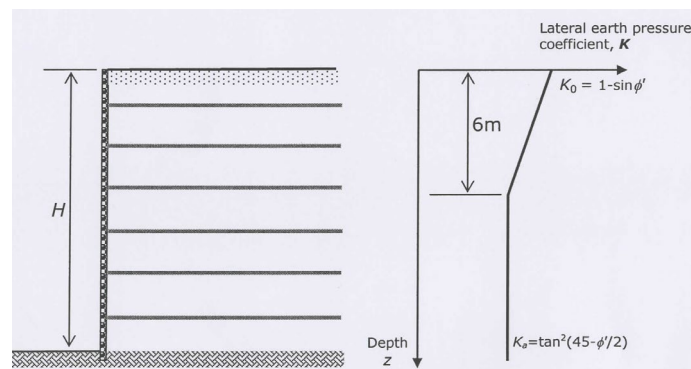

Figure 5
- The coefficient of lateral earth pressure acting on facing is given in Figure 5.